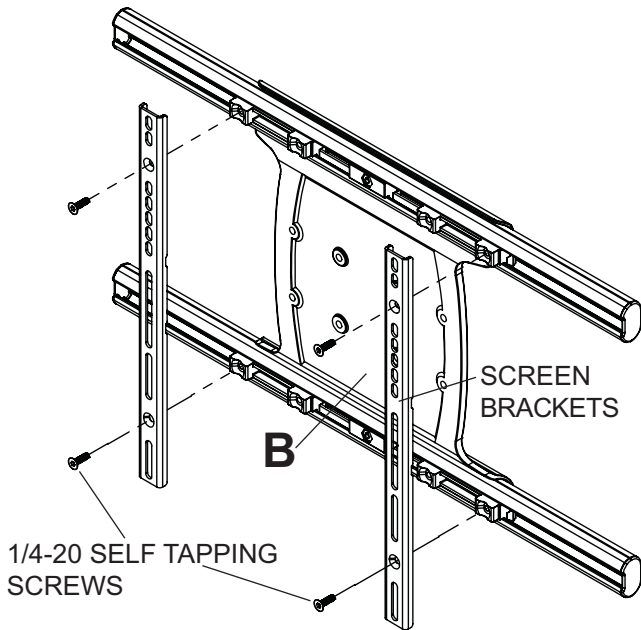

fig. 3.1
**3** Remove four 1/4-20 self tapping screws to detach screen brackets from universal adapter bracket (**B**) using 5 mm allen wrench (I) as shown in figure 3.1.